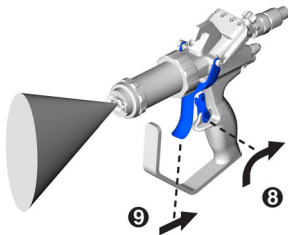

FIG. 29
9. Disengage trigger lock on the gun. See FIG. 29.
10. Pull trigger to begin dispensing. See FIG. 29.